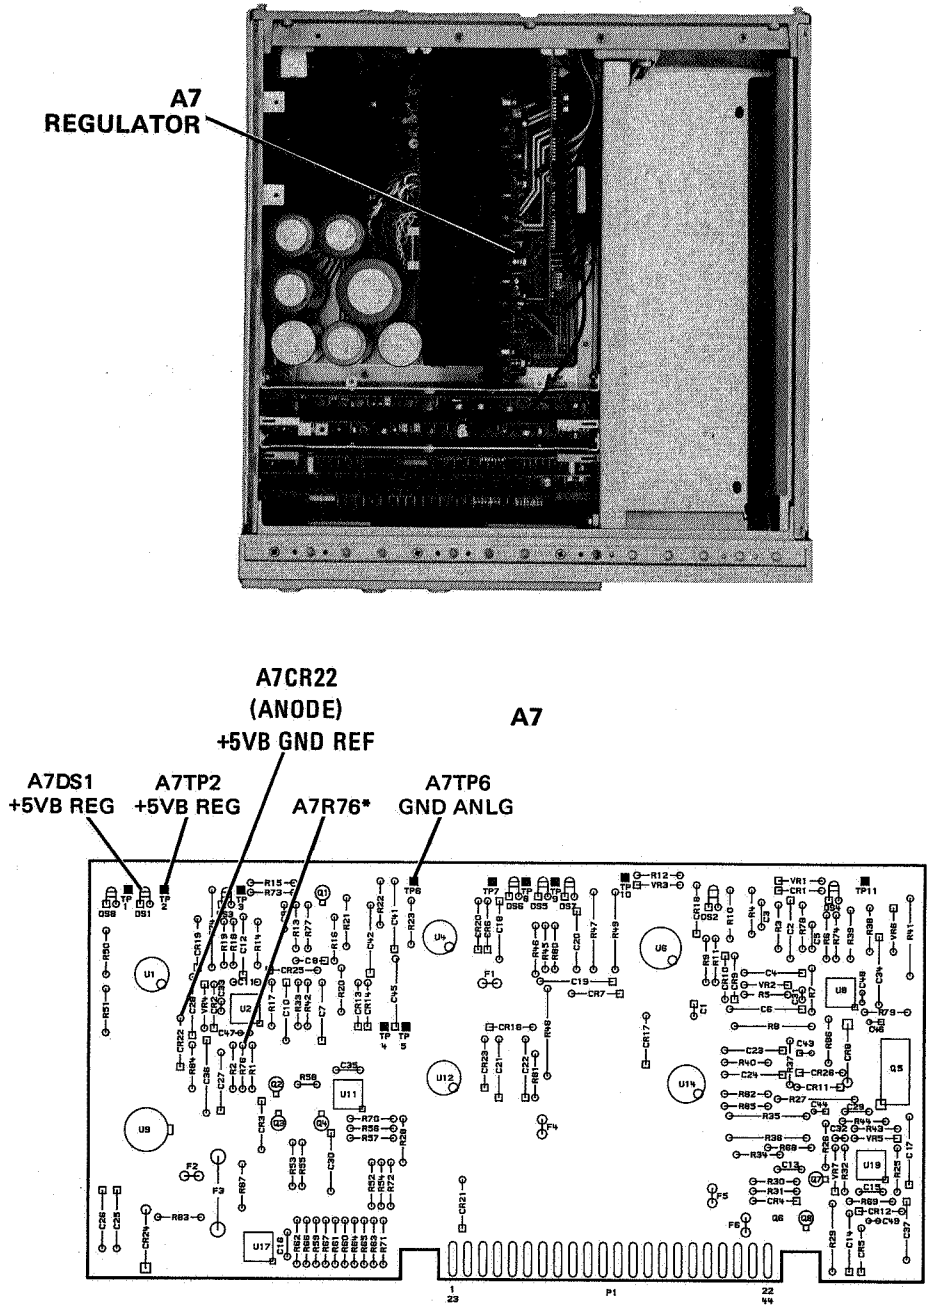

Figure 5-5. Location of +5VB Power Supply Adjustment.
6. The DVM should indicate  $5.33 \pm 0.03$  Vdc. If it does not, A7R76\* must be changed as necessary to achieve the proper level. Refer to Table 5-2 for the range of values allowable for A7R76\*. Refer to Figure 5-5 for A7R76\* component location.